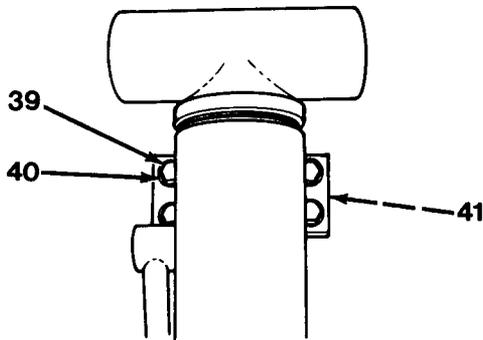

Figure 15-14
11. Remove four capscrews (39), washers (40) and two small pads (41, Figure 15-14) from boom extend cylinder.